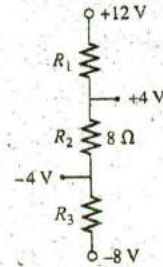

FIG. 5.121
- *38. Given the information appearing in Fig. 5.121, find the level of resistance for R_1 and R_3 .